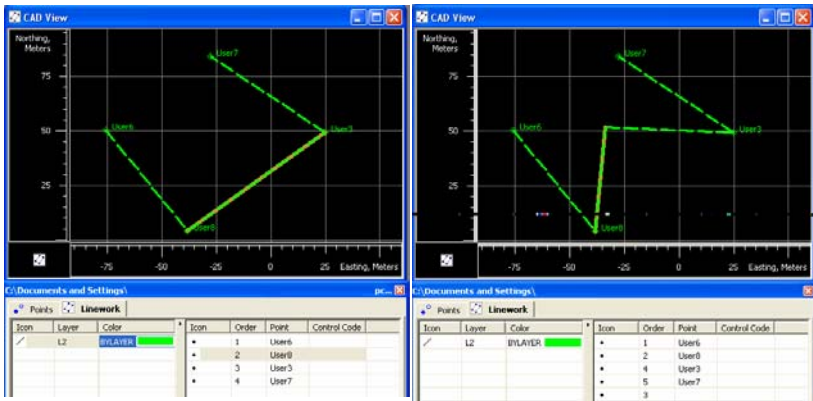

Figure 5-41. Inserting a New Point to the Selected Line
4. Click at the desired place in the CAD View. A new point will be created, the selected line will be deleted, and three points (the start and end point of selected line and the new point) will create two new segments (Figure 5-41 on page 5-30).